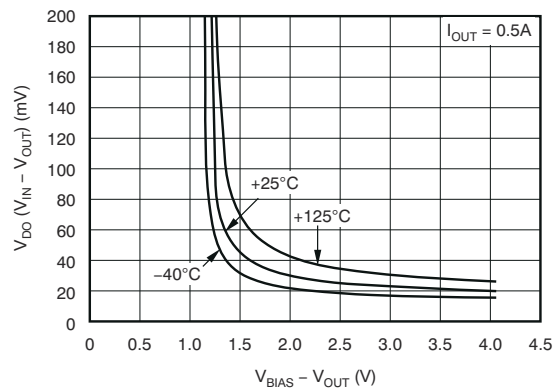

Figure 5-29. Dropout Voltage vs $(V_{BIAS} - V_{OUT})$ and Temperature (T_J)
- (1) Adjustable devices tested at 0.8 V; resistor tolerance is not taken into account.
- (2) Dropout is defined as the voltage from V_{IN} to V_{OUT} when V_{OUT} is 3% below nominal.
- (3) 1.62 V is a test condition of this device and can be adjusted by referring to Figure 5-29.